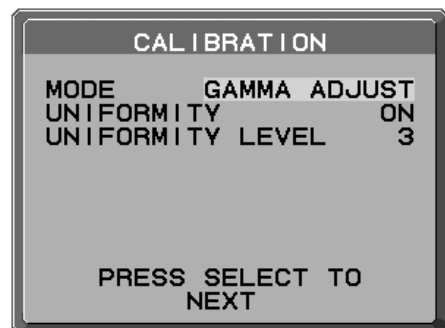

Figure 14
2. Select GAMMA ADJUST in the Mode selection (**Figure 14**).